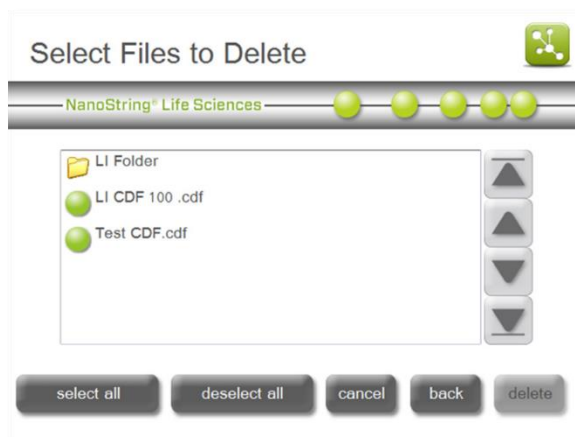

Figure 157: The 'Select Files to Delete' screen.
1. To cleanup Cartridge Definition Files, press **CDF** on the 'Disk Cleanup' screen. The 'Select Files to Delete' screen will appear (**Figure 157**).